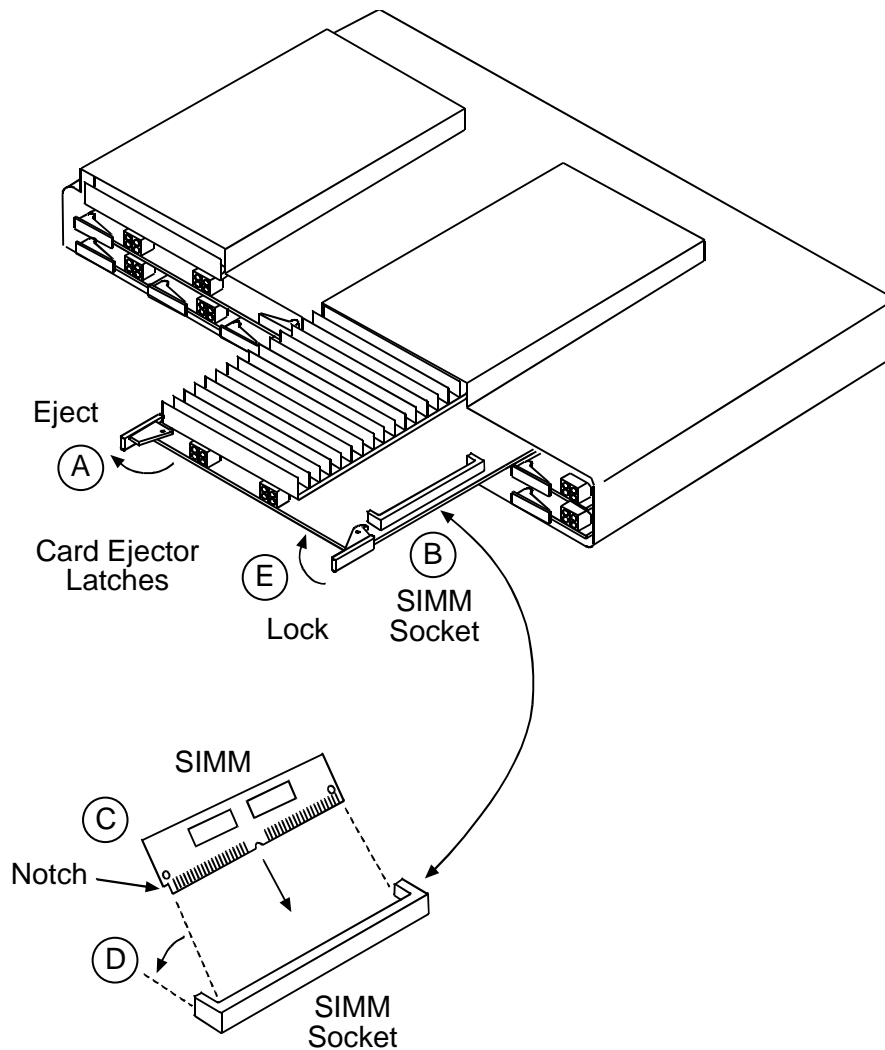

Figure 16-16. Installing Controller Card SIMM
**NOTE:** The example in Figure 16-16 shows installation and removal of Controller B.
2. Push both card ejector latches on standby Controller toward outside of card until card connector releases with backplane connector (see A in Figure 16-16).
3. Slide standby Controller partially out of card slot to expose SIMM socket (see B in Figure 16-16).
5. Hold SIMM at about a 45 degree angle with notch positioned at front of socket (see C in Figure 16-16) and insert connector edge of SIMM into socket.
6. Push SIMM down toward circuit board until it snaps into socket clamps (see D in Figure 16-16).
8. Press card ejector latches in toward center of card until card connector mates with backplane connector (see E in Figure 16-16).